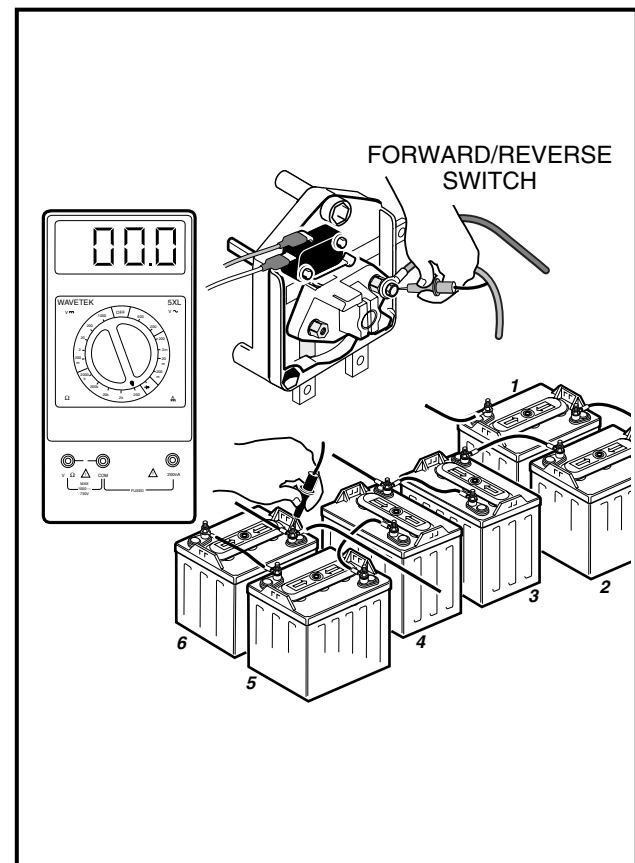

Figure 11-17 Motor Test – Stator
- 2.2. To test motor stator, place Forward/Reverse handle in the NEUTRAL position, place the red (+) probe on the common terminal lug of the Forward/Reverse switch (brown wire), and place the black (-) probe on the negative post of battery no. 6. The reading should be continuity (**Figure 11-17, Page 11-14**).